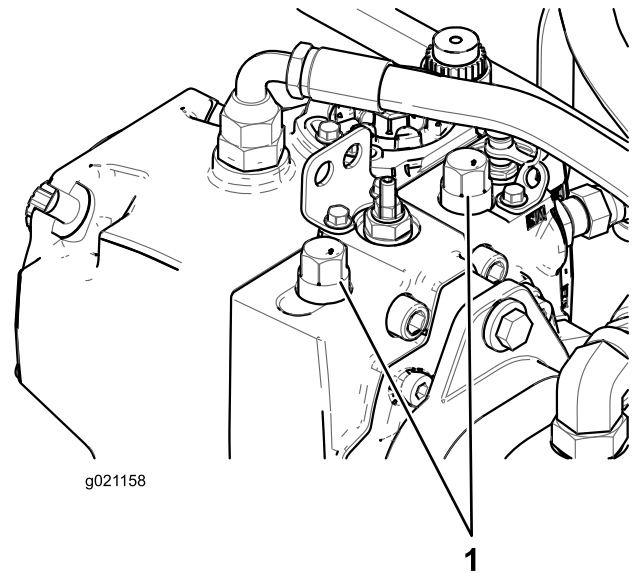

Figure 40
1. Raise the hood and locate the bypass valves on the pump (Figure 40).